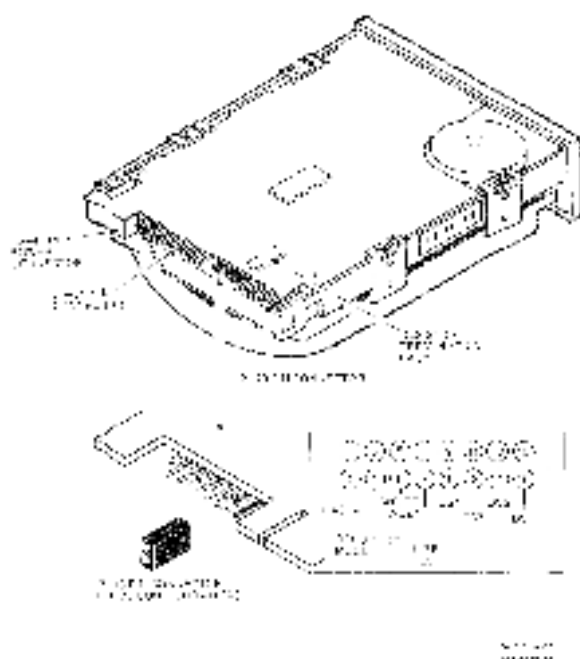

Figure 2-31 Device Electronics Board Configuration
9. Disconnect the 10-pin connector on the heat sink side of the main PC board (Figure 2-31).
5. Lift the power supply assembly out of the system unit (Figure 2-31).